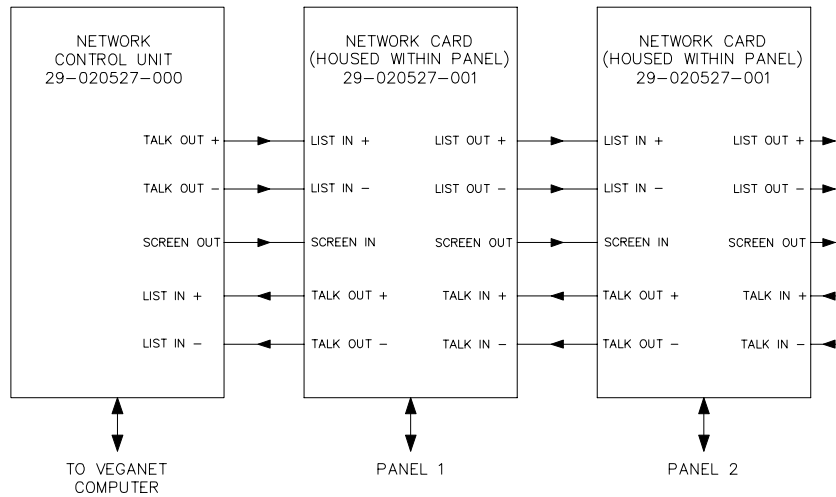

Figure 40: VegaNET Network External Wiring
5. Connect the external network transmission cables to other panels located on the network as shown in Figure 40.